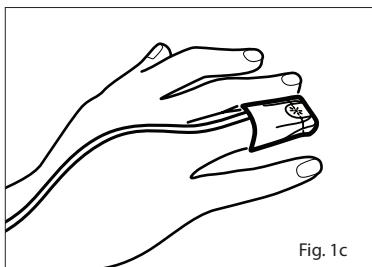

Fig. 1c
4. Refer to Fig. 1c. Fold the sensor over the finger with the emitter window (\*) positioned over the fingernail. Secure the wings down, one at a time, around the finger.